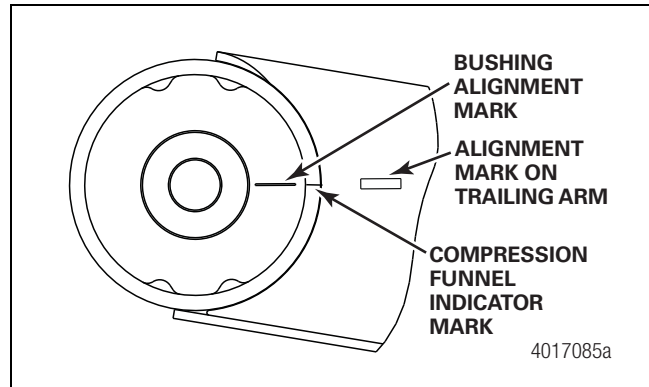

Figure 6.12
4. Insert the liner tube into the new bushing I.D. and place it in the large I.D. end of the compression funnel. Verify that the bushing mark is aligned with the compression funnel indicator line. Figure 6.12.